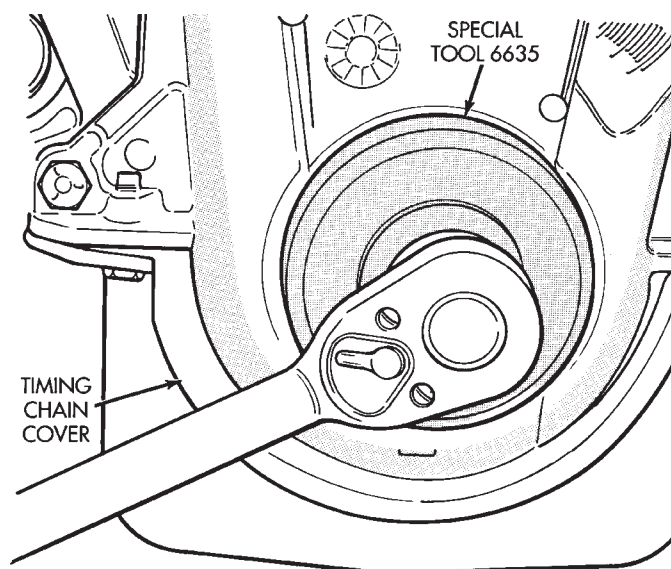

Fig. 44 Installing Oil Seal
- (7) Using the vibration damper bolt, tighten the bolt to draw the seal into position on the crankshaft (Fig. 44).
- (8) Remove the vibration damper bolt and seal installation tool.
- (9) Inspect the seal flange on the vibration damper.
- (10) Install the vibration damper.
- (11) Connect the negative cable to the battery.